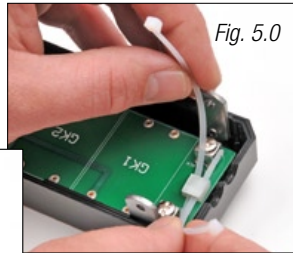

Fig. 5.0
**5** Feed 2 zip ties through the tie down on the "output" side of the housing (nearest GK1). (Fig 5.0)